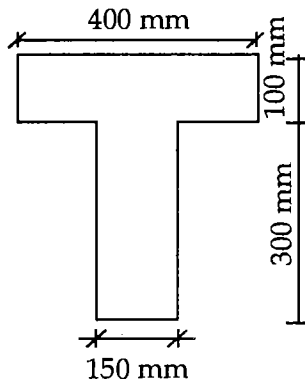

Fig. 5
- (b) Find Moment of Inertia of a plane lamina shown in the fig. 5. about its horizontal axis. Also find the radius of gyration.